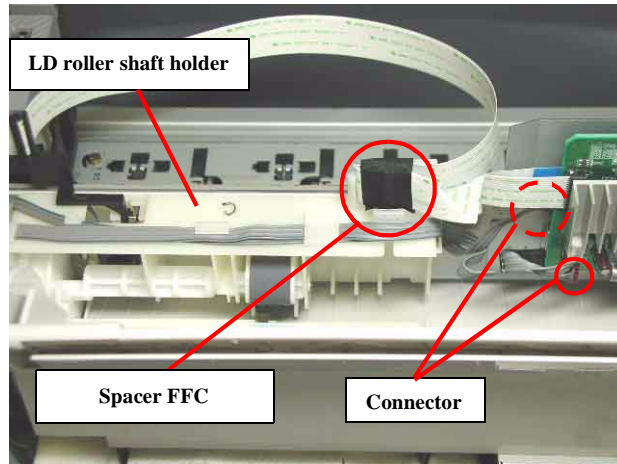

Figure 4-29. Head FFC removal
- Make sure to place the Head FFC in the correct position. (Refer to Figure 4-29)